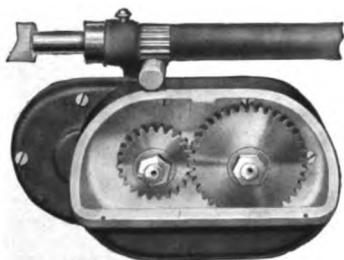

FIG. 2. SMALL SPEED TRANSPOSING GEAR ON REAR, OR DRIVING SHAFT
**RANGE OF SPEEDS AND FEEDS**—Any combination of speeds or feeds may be obtained by means of a patented arrangement for transposing gears. The speed transposing gears are shown in Fig. 2. Here the small gear is on the rear shaft, which gives slow speeds; when it is changed to the front shaft, high speeds are obtained. These two mechanical speed changes, together with the arrangement for using transposing gears, make it possible to obtain 40 different speeds ranging from 74 to 508 r.p.m. One pair of transposing gears is furnished with each machine and the buyer should specify the number of teeth in these so as to obtain the spindle speeds he desires. The gears are entirely enclosed in an oil-tight case.